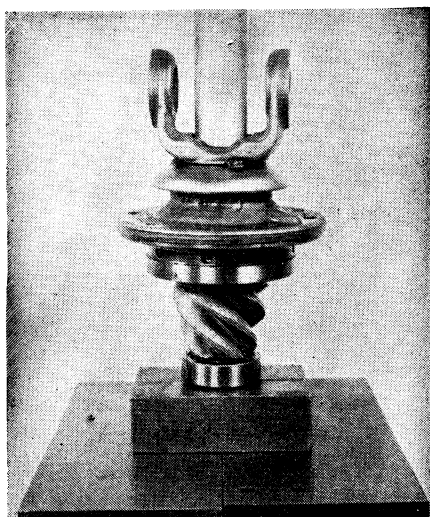

Fig. 108 Pressing on pinion yoke
13. Press yoke against forward bearing, Fig. 108, and install washer and pinion shaft nut.